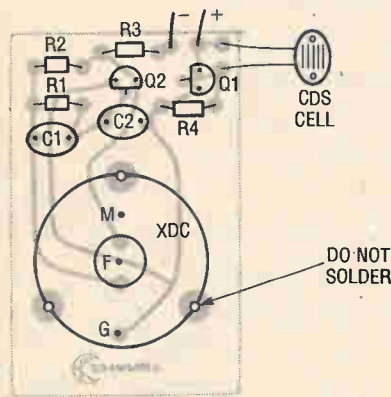

Figure 2. Parts-placement diagram for the Insanity Alarm.
1. Assemble the Insanity Alarm by following the parts layout (Figure 2), parts list, and schematic. Use only 60/40 rosin-core solder. Never use acid-core solder.